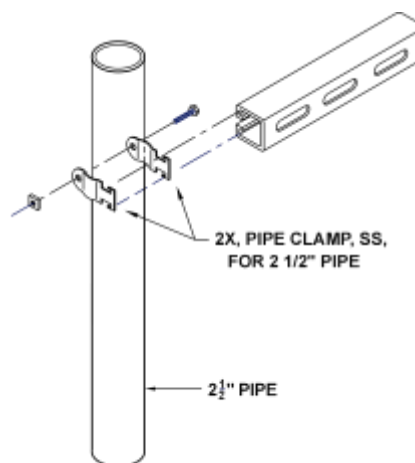

Figure 9. Mount Lightning Surge Suppressor with Unistrut and Pipe
4. Mount the Lightning Surge Suppressor on the mounting pipe below the Ceilometer using the mounting clamps to secure the Unistrut to the mounting pipe as shown in Figure 9.
1. Before closing the Ceilometer door, make sure the circuit breaker switch is in the "ON" (up) position (Figure 9).